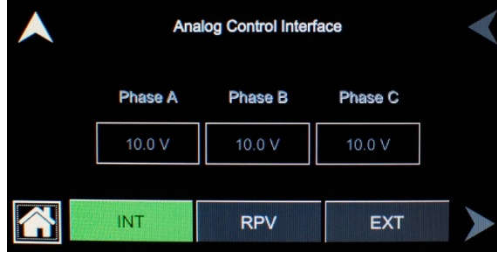

Figure 4-41. CONTROL INTERFACE Menu, ANALOG Sub-Menu
ANALOG	<p>Selects the reference that determines the output voltage waveform and amplitude; the default is INT. Refer to Figure 4-41. The options are as follows:</p> <p>INT: Selects programming of the output voltage waveform and amplitude by the internal controller reference.</p> <p>RPV: Selects programming of output voltage amplitude with an external analog interface signal, with the waveform being set by the internal controller reference. A Voltage field is provided for entry of DC signal range: user-selectable maximum range value within 2.5 VDC to 10 VDC, for full-scale RMS of internally programmed output voltage waveform.</p> <p>EXT: Selects programming of output voltage waveform and amplitude with an external analog interface signal. A Voltage field is provided for entry of AC or DC input signal range: 0V to user-selectable maximum range value within 2.5 V(PK) to 10 V(PK), corresponding to maximum range of 1.77 V(RMS) to 7.07 V(RMS), for zero to full-scale RMS output voltage; with AC waveform, from 16 Hz to 5 kHz (option dependent);</p> <p>PHASE: Selects the full-scale of the analog programming voltage for each output phase (Phase-A/B/C).</p>